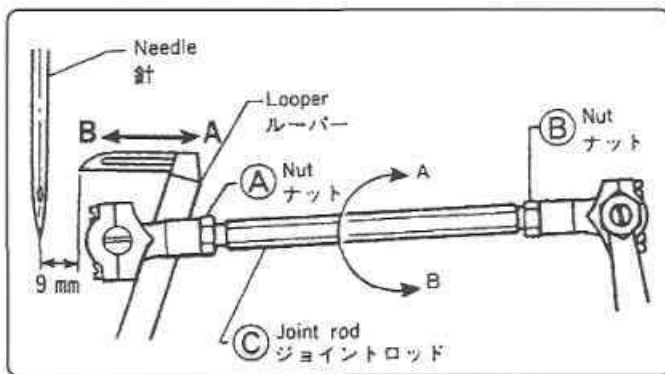

Fig.9
5-6. Looper (Fig.9,10)
Your machine is properly adjusted at the factory. If on-site adjustment is necessary after repair, etc, follow the steps below (Fig.9,10).
- 1) Turn pulley forward until the needle is in the lowest position, or the looper is in the most backward position. In this instance, the looper point should be 9mm from needle center, as shown in Fig.9. To adjust loosen nuts (A) and (B) by turning them toward you. Turn joint rod in the direction A to move back the looper, and turn it in the direction B to advance the looper.
5-6. ルーパーの調整(Fig.9,10)
- 1) ルーパーが最も後退したとき針芯とルーパーの距離は 9mm です。<Fig.9>ナット(A) (B)を手前に廻して緩め調整してください。ジョイントロッドをA方向に廻すとルーパーは後退し B 方向に廻すと前進します。